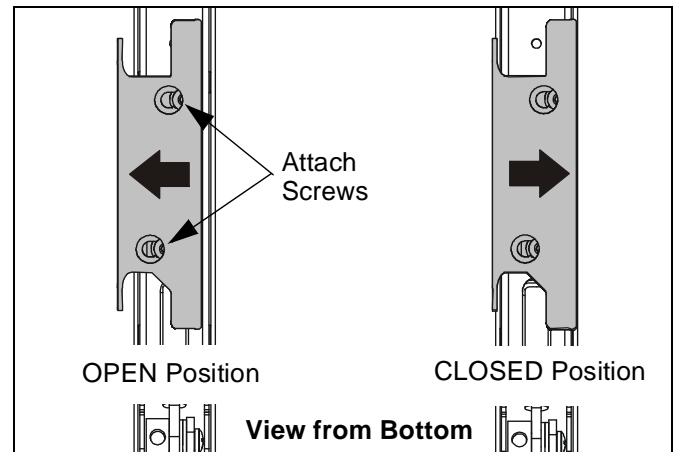

Figure 8
2. Open the cable management bracket by sliding it towards the edge of the arm (See Figure 8).
4. Close cable management bracket by sliding it back towards the centerline of the arm (See Figure 8).